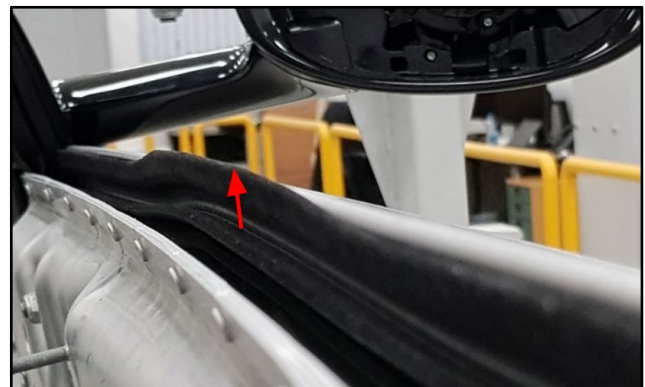

Figure 2
- If the door glass lifts the seal (refer to Figure 2), do parts B and C of this Service Bulletin for this door.